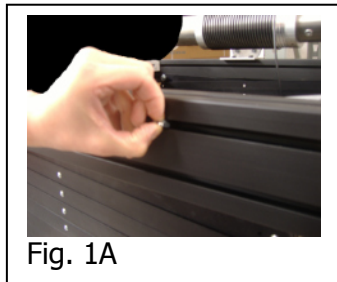
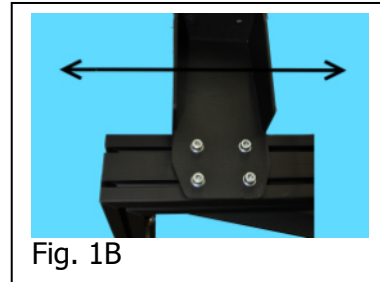

Fig. 1A
Fig. 1B
- In order to mount the four metal brackets shown on Fig. "B" above on the upper aluminium frame of the SI-H XL 300, please use screws, washers and crowned nuts mentioned on "C, D, E" of the supplied equipment list; put inside the groove of the aluminium frame the crowned nut as shown on Fig. 1A; connect the ceiling bracket to the profile by the socket head screws and the crowned nuts, move the ceiling bracket along the profile in order to position it where needed (Fig. 1B); now tighten firmly the screws of the four brackets.